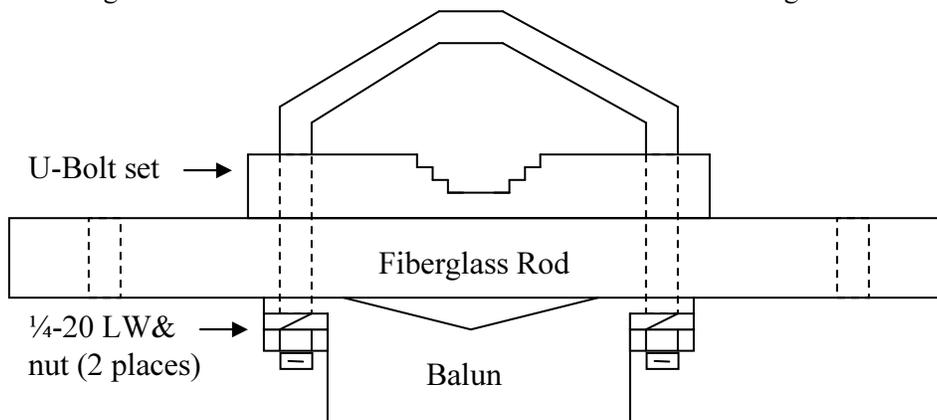

Figure 2: Balun/Center Insulator Assembly – Top View
- 6) Bolt the balun loosely to the 1 x 12" fiberglass rod using the U-bolt set and 1/4-20 hardware. The nuts will be tightened when the antenna is mounted on the mast. See Figure 2.